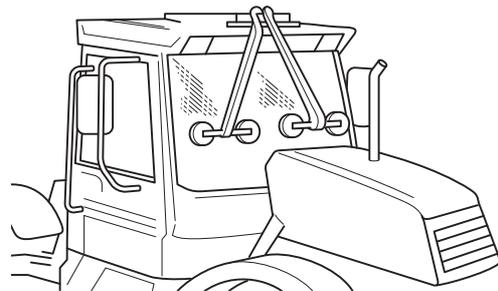

Fig 15. Typical M/c. Installation
- a Always use the special lifting tools when moving the glass. Use a lifting strap to hold large panes of glass in position. ⇒ Fig 15. \(□ B-32\).